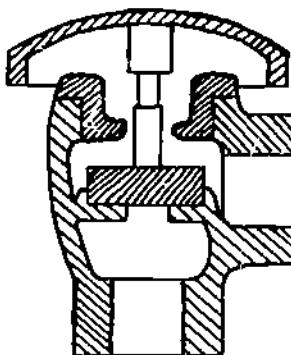

Figure 30-2. Vacuum Breaker Cross-Sectional View, Shown Open to Atmosphere
- Pressure Type (See Figure 30-2).